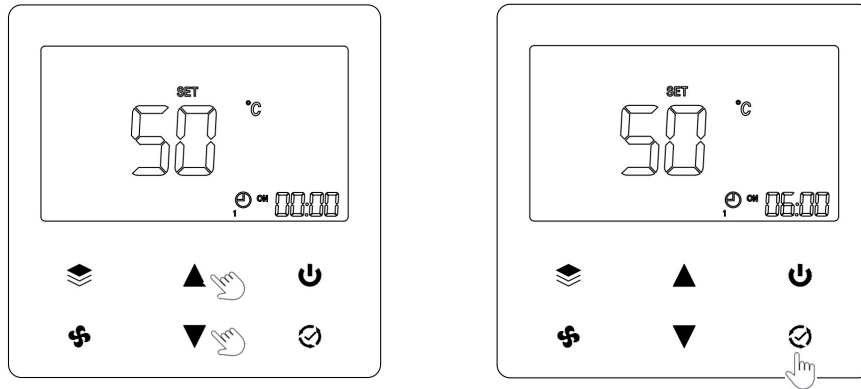

Figure 7. Setting of startup time for time period 1
3. After the timing is enabled (that is, the timing display is ON), press “ ⌚ ” to enter the startup time setting with the time blinking (as shown on the left in Figure 7).
4. Set the startup time by pressing “ ▲ ” or “ ▼ ”, for example, set the startup time to 6:00. When the time is adjusted to 6 o 'clock, press “ ⌚ ” to complete the setting of startup time in period 1 (as shown on the right in Figure 7).